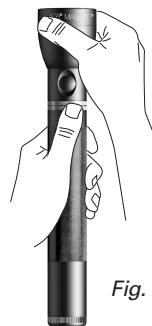

Fig. 2
2. Head The head is not removable; any attempt to do so will only damage its function. The head can be lowered to the Charging Ring Module for replacement of lamp (see page 13). **Focusing Beam:** Quick focusing “continuous cam-action” spot-to-flood beam. Operates with a simple quarter turn of the flashlight head assembly. (Fig. 2)